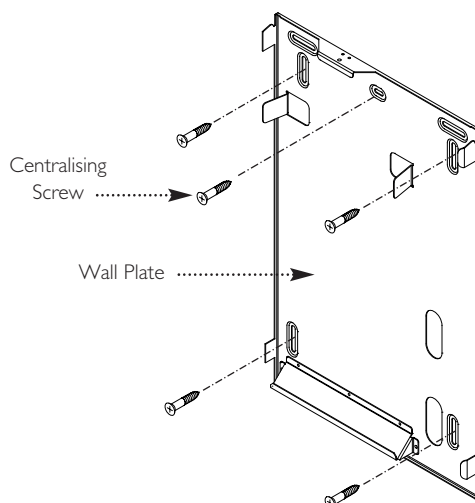

Fig. 22
6. Drill and plug the wall as previously marked. Secure the wall plate using the centre hole (Fig. 22).
7. Ensuring the wall plate is level both horizontally and vertically, drill and plug at least 4 securing positions at the top and bottom through the wall plate. Utilising the slots available ensure the wall plate is square and secure to the wall (Fig. 22).